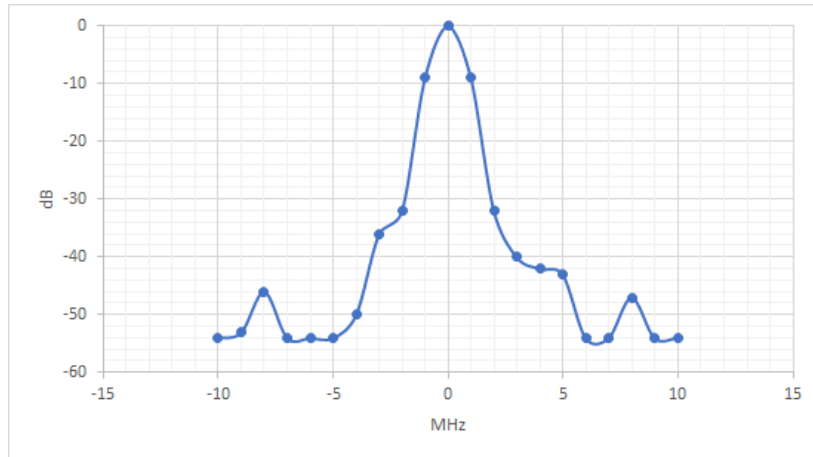

Fig 25. Rx carrier/interfere rejection test @ 250 kbit/s
- The Rx carrier/interfere rejection with the GFSK data rate of 250 kbit/s is shown in Fig 25.